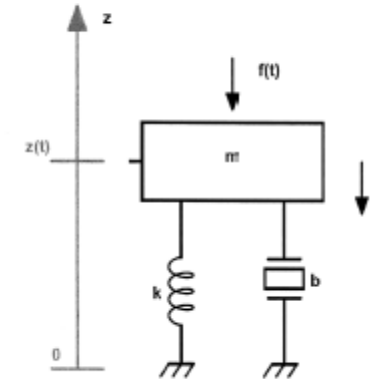

Figure 2
- (a) With reference to the mechanical configuration sketched in Figure 2 and assuming zero-length for the spring at rest: